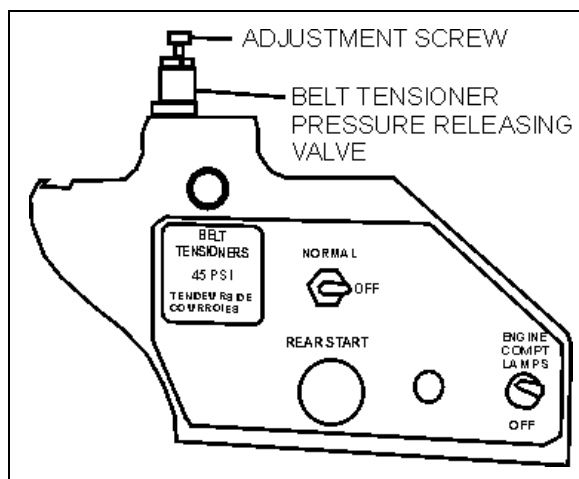

FIGURE 20: AIR PRESSURE REGULATOR
1. Open engine compartment rear doors and locate the belt tensioner pressure releasing valve (Fig. 20), mounted above the engine
4. Reset belt tensioner pressure releasing valve (Fig. 20) to 45 psi (310 kPa) to apply tension on the new belts as explained in Section 12.